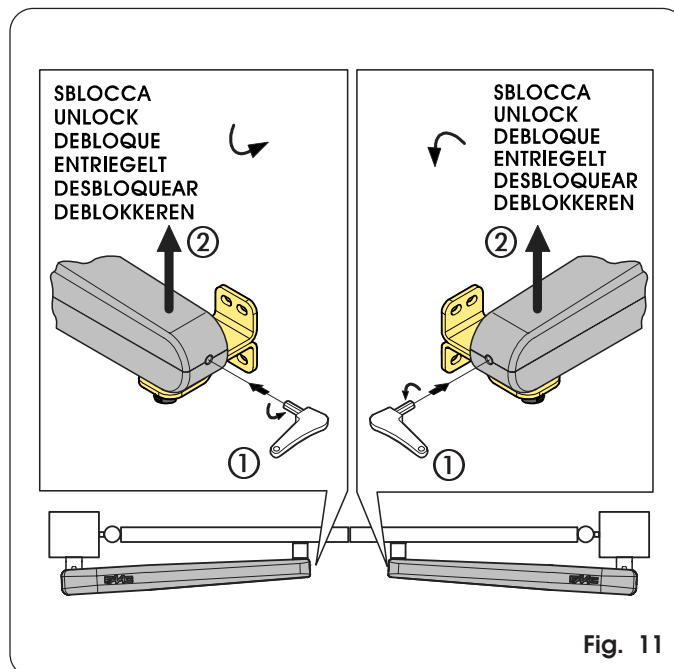

Fig. 11
- Fit the supplied Allen wrench in the front part of the operator and turn it anti-clockwise for 5-6 turns (Fig. 11 Ref. ①).
- Lift the operator by its front end, detaching it from the fitting (Fig. 11 Ref. ②) and remove the release key.